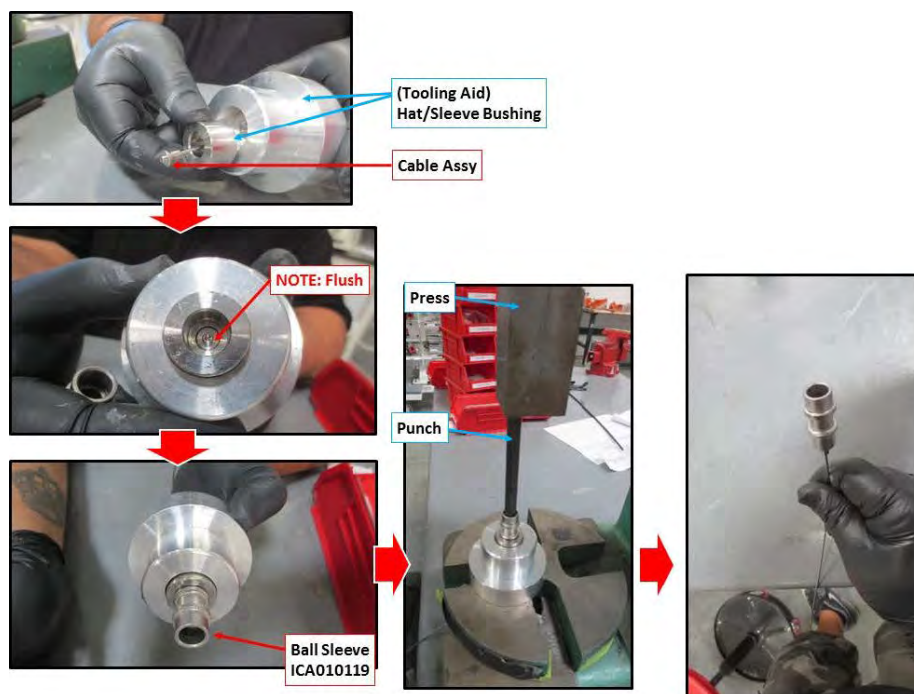

FIGURE 19-6
1. Insert the cable assembly (ICA010123) through the tooling aid and make sure the cable seats flush with the bushing. (See Figure 19-6.)
2. Load the ball sleeve (ICA010119) onto the bushing.(See Figure 19-6.)
3. Press the ball sleeve to the cable using a punch and a press. (See Figure 19-6.)